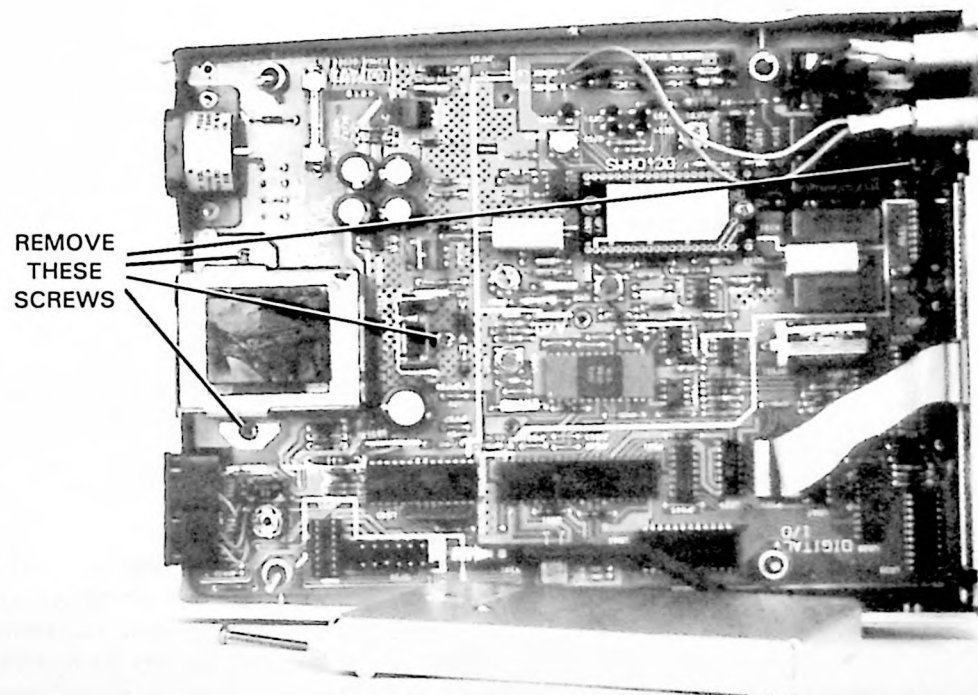

Figure 2-4. Top View with Inner Shield Removed (Model 3468A shown)
b. Refer to Figure 2-4. Loosen and remove the printed circuit board mounting screws, as shown in the figure.